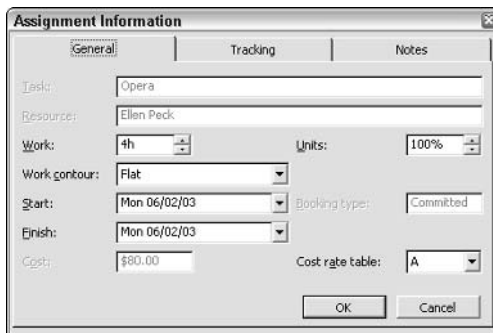

Figure 10-11: Use the Assignment Information dialog box to change a resource's workload to part-time.
2. Click the Assignment Information button on the Standard toolbar, or double-click the task to open the Assignment Information dialog box. You can see the General tab in Figure 10-11.
3. Click the Assignment Information button, or double-click the resource. Project displays the General tab of the Assignment Information dialog box (as shown previously in Figure 10-11).